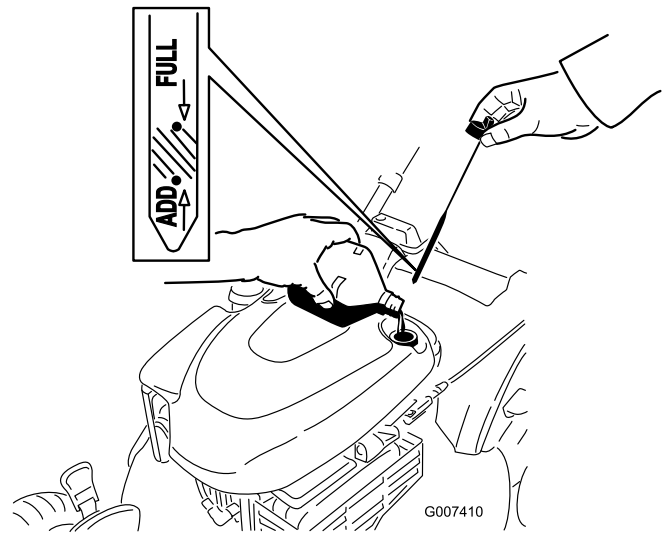

Figure 4
1. Remove the dipstick (Figure 4).
2. Slowly pour oil into the oil fill tube until the oil level reaches the **Full** line on the dipstick (Figure 4). **Do not overfill.** (Max. fill: 0.6 l, type: SAE 30 detergent oil)